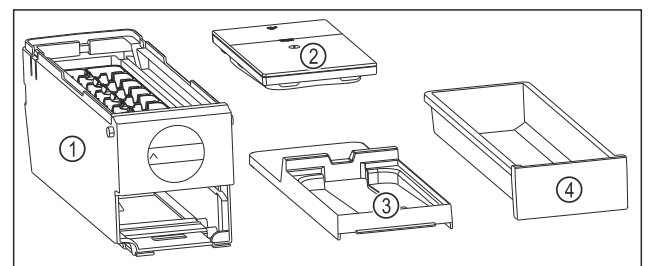

Fig. 89 Components of the EasyTwist-Ice
- ▶ EasyTwist-Ice is dismantled into four parts. (see Fig. 89)
- ▶ Only dismantle the EasyTwist-Ice into the components shown. (see Fig. 89)
- ▶ Clean the EasyTwist-Ice body Fig. 89 (1) as a whole.